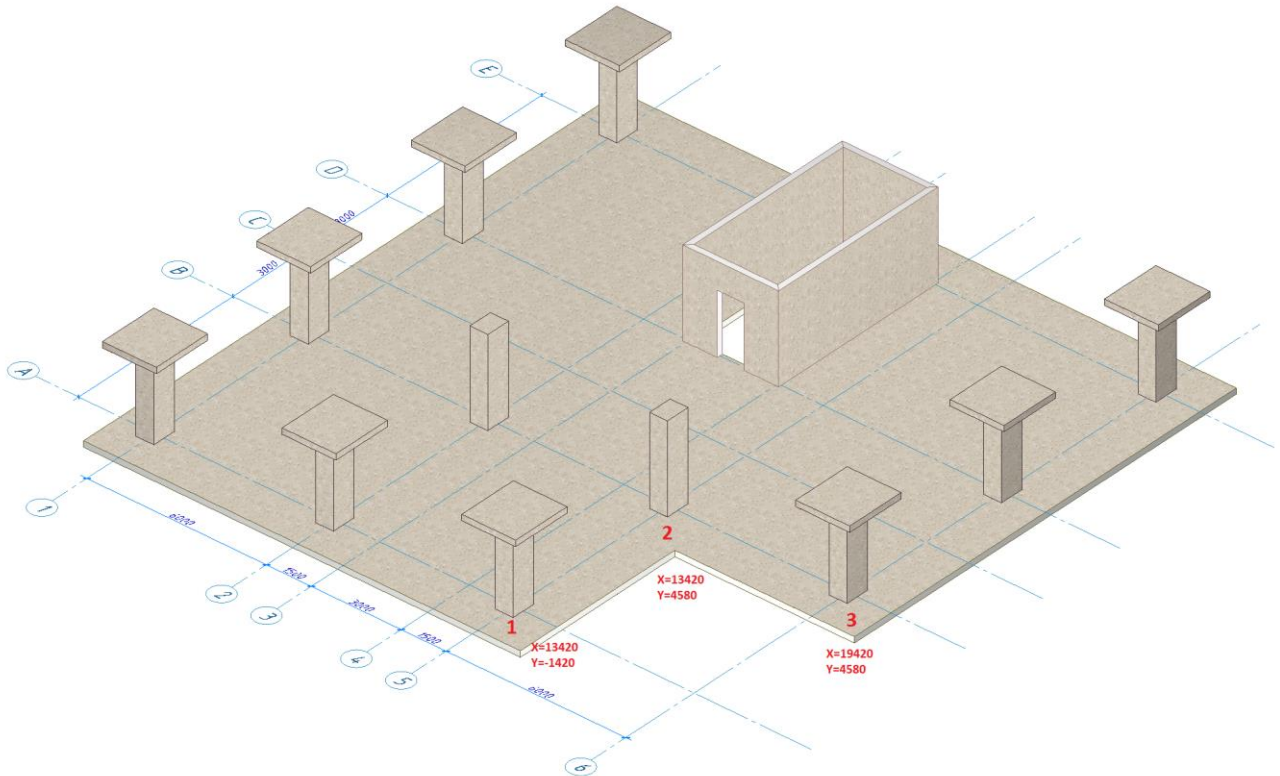

Figure 23.10. Modified contour of the floor slab
- ⇒ Between the vertex 1 and the right angle of the slab, insert the vertex 2 in the similar way. Coordinates for the vertex 2 are $X=13420$, $Y=4580$ (see Fig. 23.10).